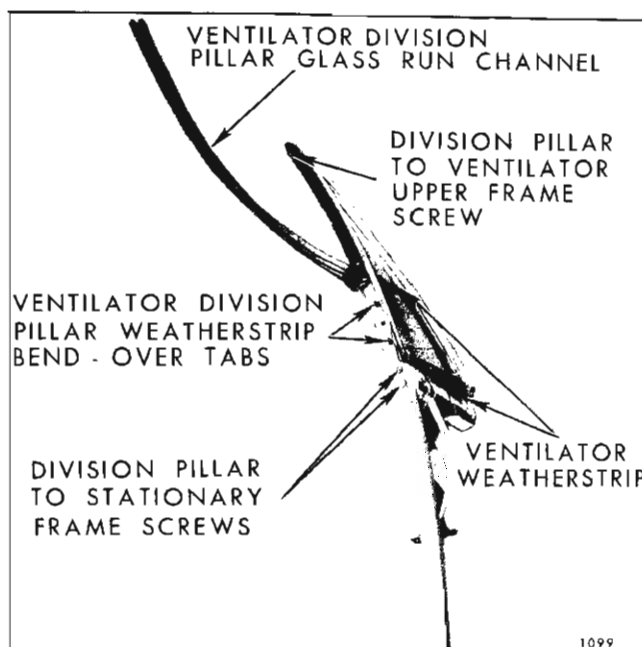

Fig. 1D69—Rear Door Ventilator Assembly - 68069 Style
3. Remove front upper stop attaching bolts and remove stop (Fig. 1D65).
4. Remove front guide support bracket attaching bolt (Fig. 1D65).
5. Remove front guide upper attaching bolt (Fig. 1D67).